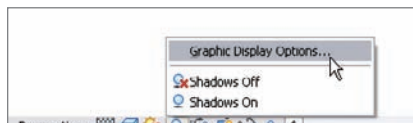

FIGURE 19.2 Selecting Graphic Display Options
11. For the Shadows, select Graphic Display Options, as shown in Figure 19.2.